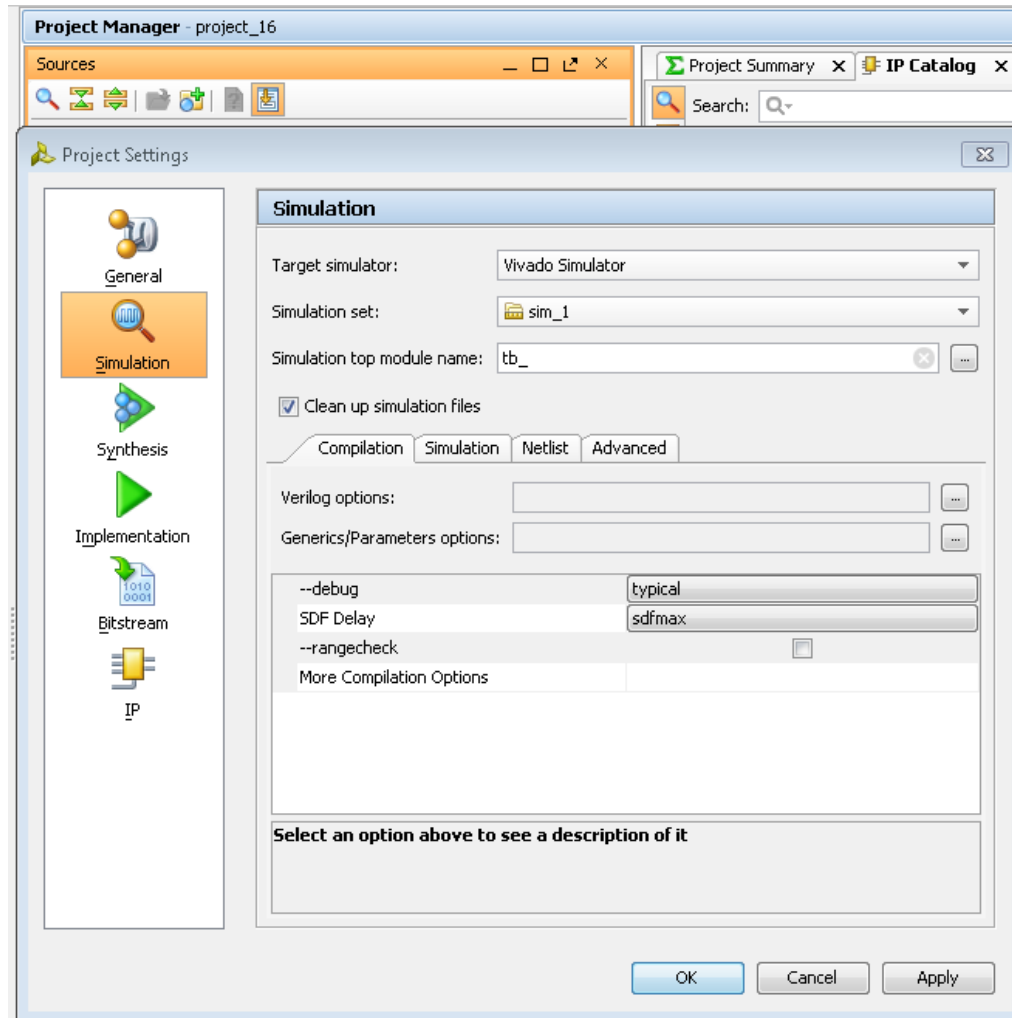

Figure 7-3: Simulation GUI
- You can also choose Questa SIM for simulation by going to **Project Settings** and selecting Questa SIM as the Target Simulator (Figure 7-3).